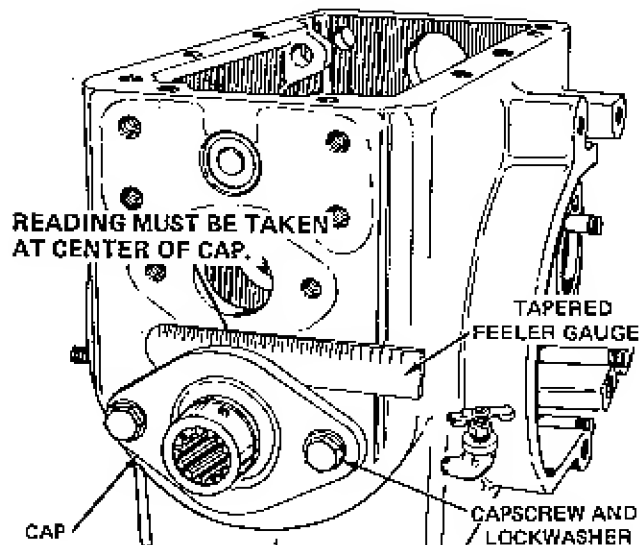

Figure 11. Final Gear Assembly Shimming Measurement
- h. To establish required end-play in, insert a tapered feeler gauge (Figure 11) in between tightened cap and transmission case. Any type feeler gauge may be used, however, a